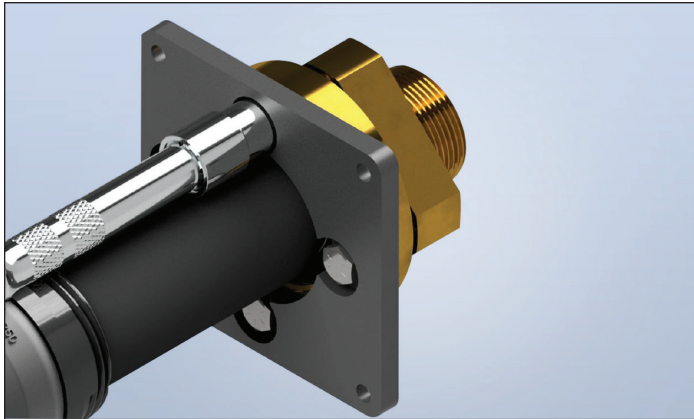

Figure: 1-7
9. Tighten all Hex Bolts in an alternating pattern to the torque value listed in Table 1 (Figure 1-7). Note that the **TracPipe** System fitting is designed to form a leak tight seal on the stainless-steel tubing as the fitting is tightened. **DO NOT overtighten bolts.** When fully tightened, there should be a small and uniform gap around the circumference of the fitting between the Front Pipe Flange and the Back Flange.